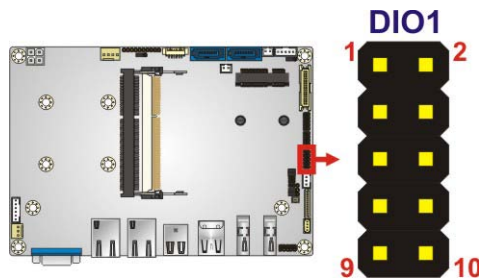

Figure 4-4: DIO Connector Location
- CN Location: See **Figure 4-4**